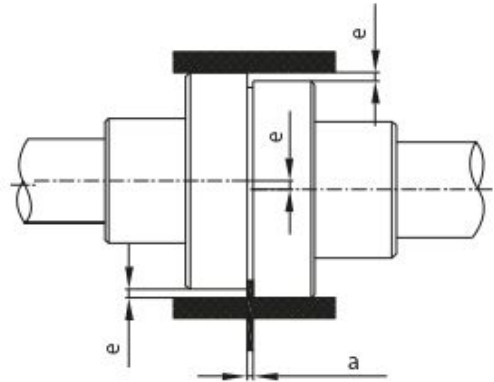

Figure 8. Aligning a flexible coupling
- A metal part (steel ruler or gauge, etc.) and a precise caliper are required to perform coupling adjustment (special equipment should be used for very fine and precise adjustment). Axial run-out of the coupling (see Figure 8) should not exceed 0.1 mm.